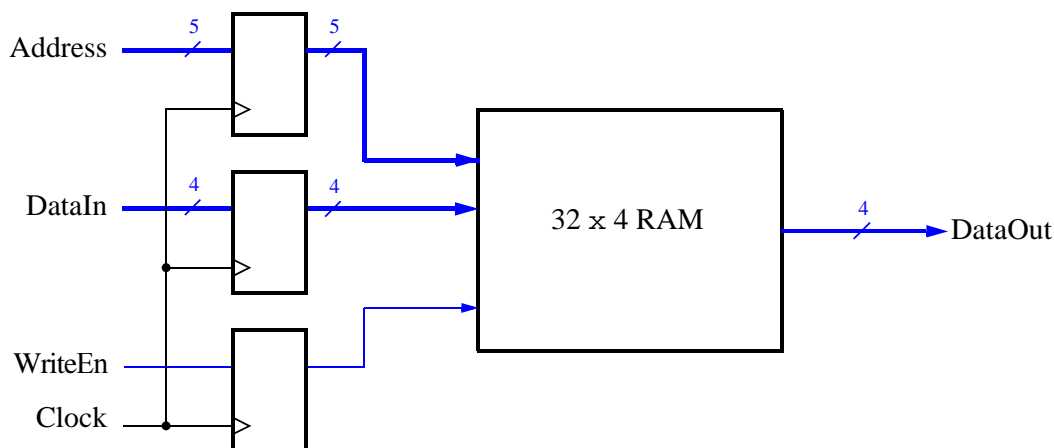

Figure 1: Schematic of the 32×4 embedded memory module.
The memory module we would like to create is shown in Figure 1. It consists of a memory block, address register, data register and a control register. You can see that the address and input data are stored in a register as well as the Write Enable control signal. Using the registers means that the *DataOut* value will be stable for one clock cycle and allows the inputs to be changed after the rising clock edge in preparation for the next clock cycle (the rising clock edges are marked with gray vertical lines). It is a small memory block so that we can easily interact with it using the available switches and displays on the the DE2 board.
9. Examine the newly created Verilog file. Observe that it declares a module with the required ports as shown in Figure 1, although the names of inputs and outputs may be slightly different. You can now instantiate the module into any design.